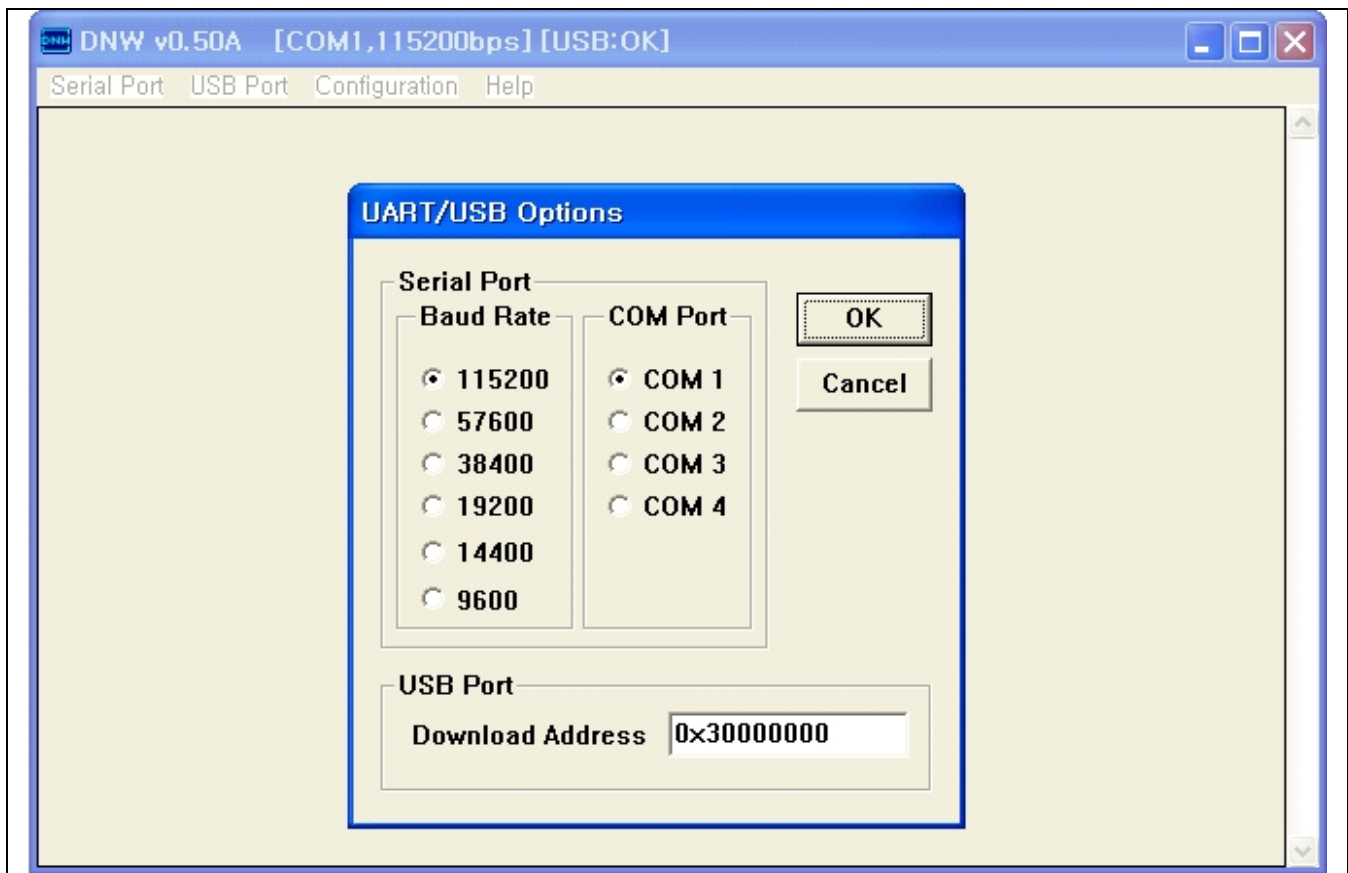

Figure 2-5. Setting UART/USB Options
2. Select Options from the Configuration menu (See Figure 2-5).